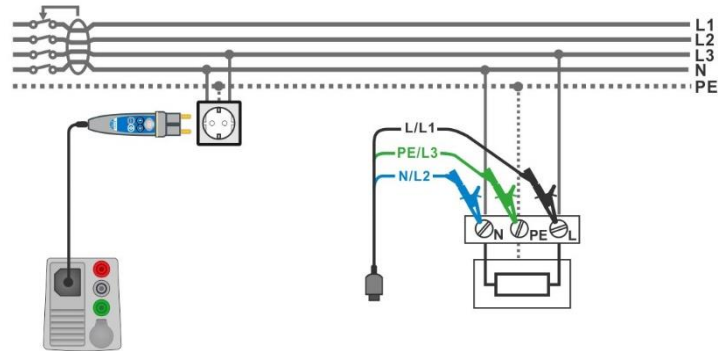

Figure 7.68: Z auto measurement
- ▶ Connect 3 wire - test lead or Plug commander to the object under test, see **Figure 7.68**.